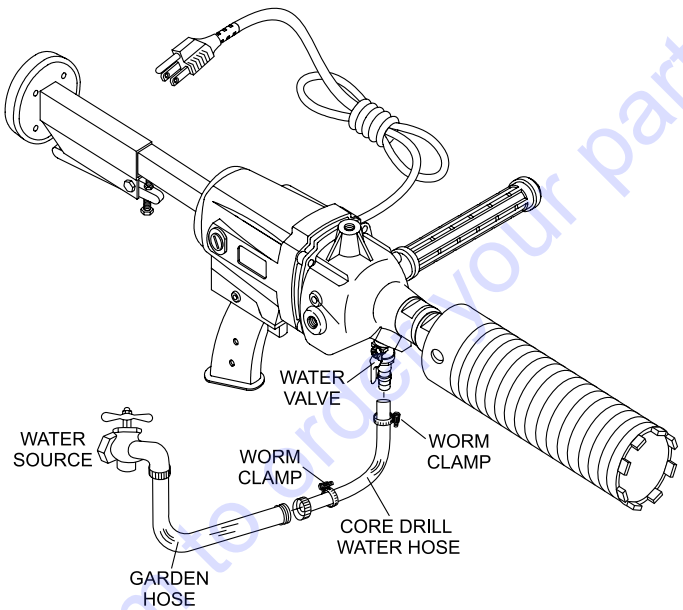

Figure 7. Connecting the Water
1. Attach the Water Kit (supplied) to the core drill as shown in Figure 7. Ensure that the worm-clamps are securely attached to the water valve bib.